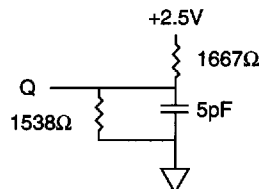

Figure 2
6. Output loading is specified using Figure 2 with CL = 5pF (for IOH = -2mA and IOL = 2mA).